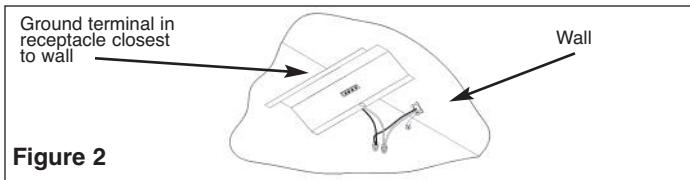
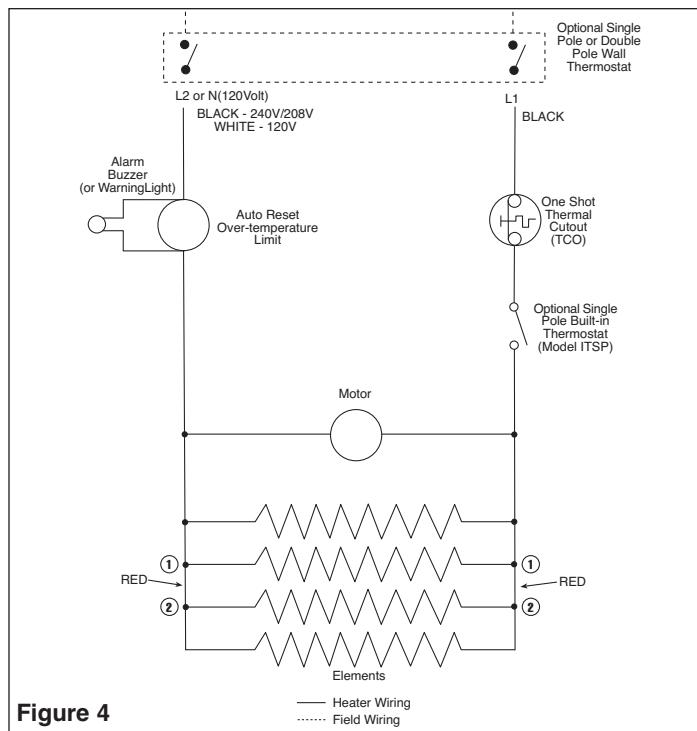

Figure 2
Figure 4
- Bring supply wire into desired knockout, leaving 6" (152mm) of leads extending into the enclosure as shown in Figure 2.
- For Model I1500, connect the white (neutral) supply lead to the white receptacle lead and the black line supply lead to the black receptacle lead as shown in Figure 2. (See also wiring diagram shown in Figure 4). For I1504 connect the two black supply leads to the two black receptacle leads. (See wiring diagram shown in Figure 4.)
- Install junction box cover as shown in Figure 2.